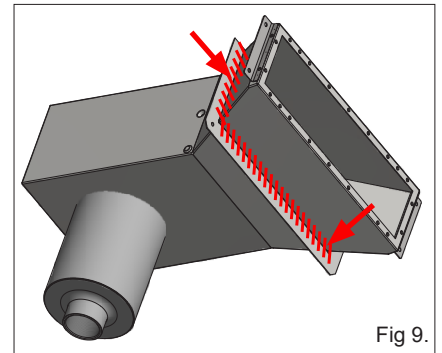

Fig 9.
2. Apply sealer at the joint between the sealing flanges and the skimmer housing (see Fig. 9).